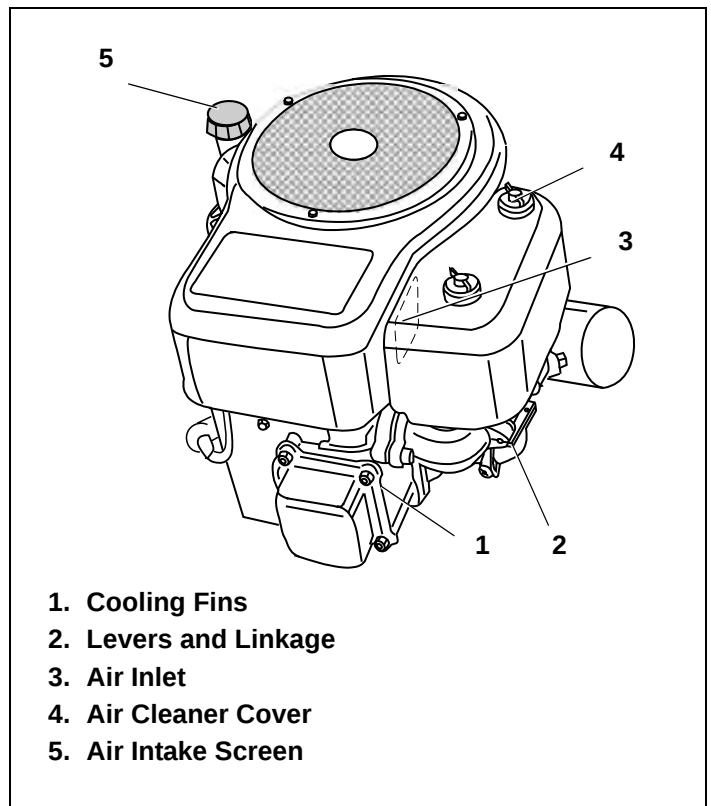

Figure 21. Debris Locations
Removing debris will insure adequate cooling, correct engine speed and reduce the risk of fire. See Figure 21.
Before removing air cleaner cover, see "III. Filter Removal/Installation" instructions on page 12. Special care should be taken to prevent damage when removing air cleaner cover. See Figure 21. Afterward, continue reading instructions below.
1. Remove air cleaner cover and filters. See Figure 21